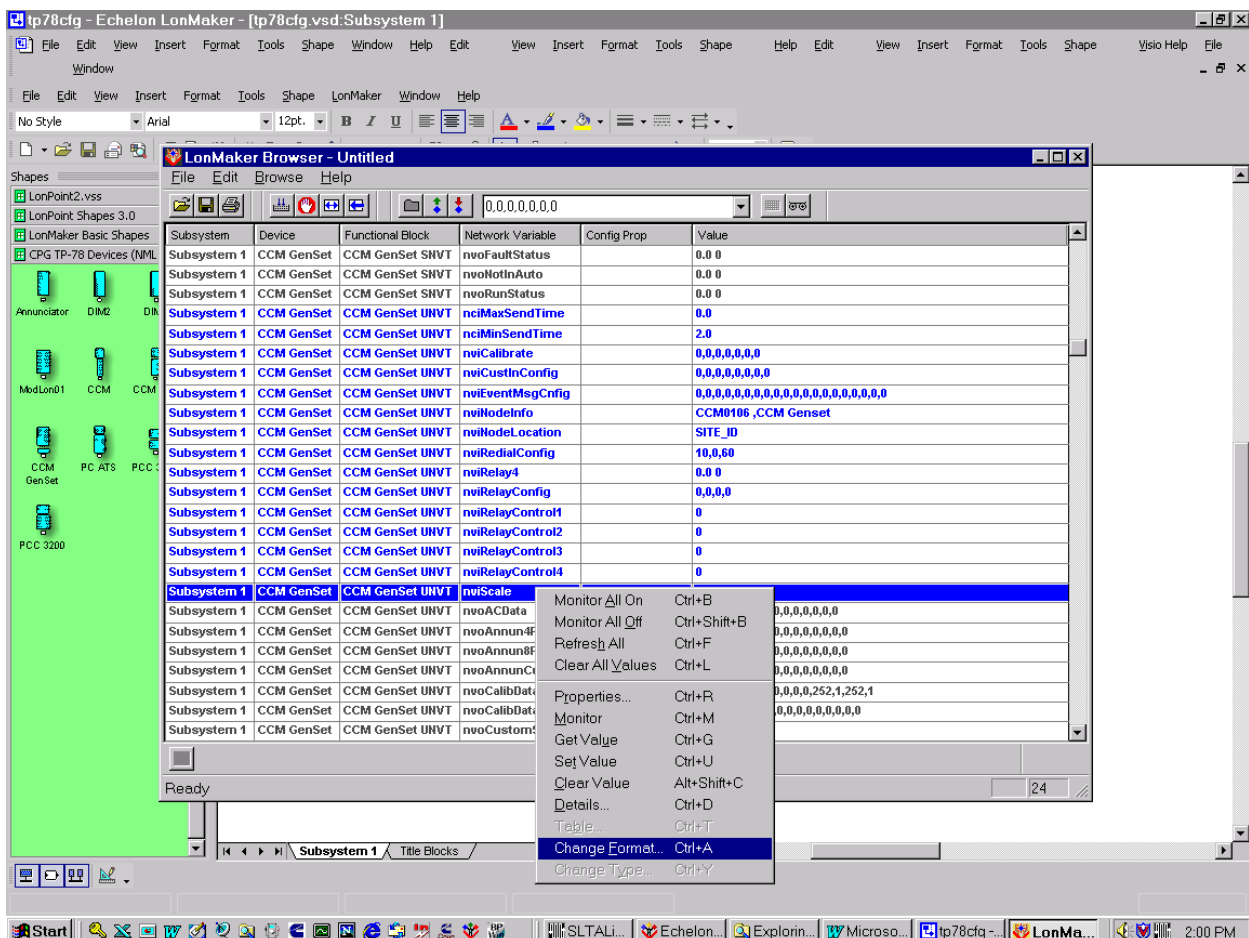

FIGURE G-7. CHANGING FORMAT
- a. To change format, right click on the variable in the browser and select “Change Format” (see Figure G-7).